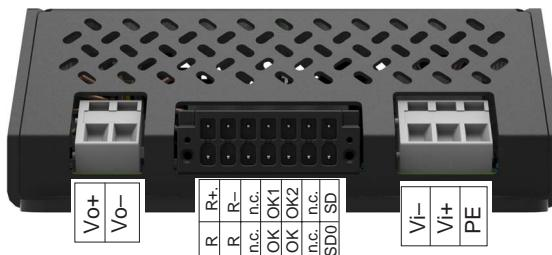

Fig. 12
- Auxiliary connector: Phoenix Contact 1713883; recommended wire section: 0.2 – 1.5 mm2, 24 – 16 AWG; pin allocation see fig. 12.